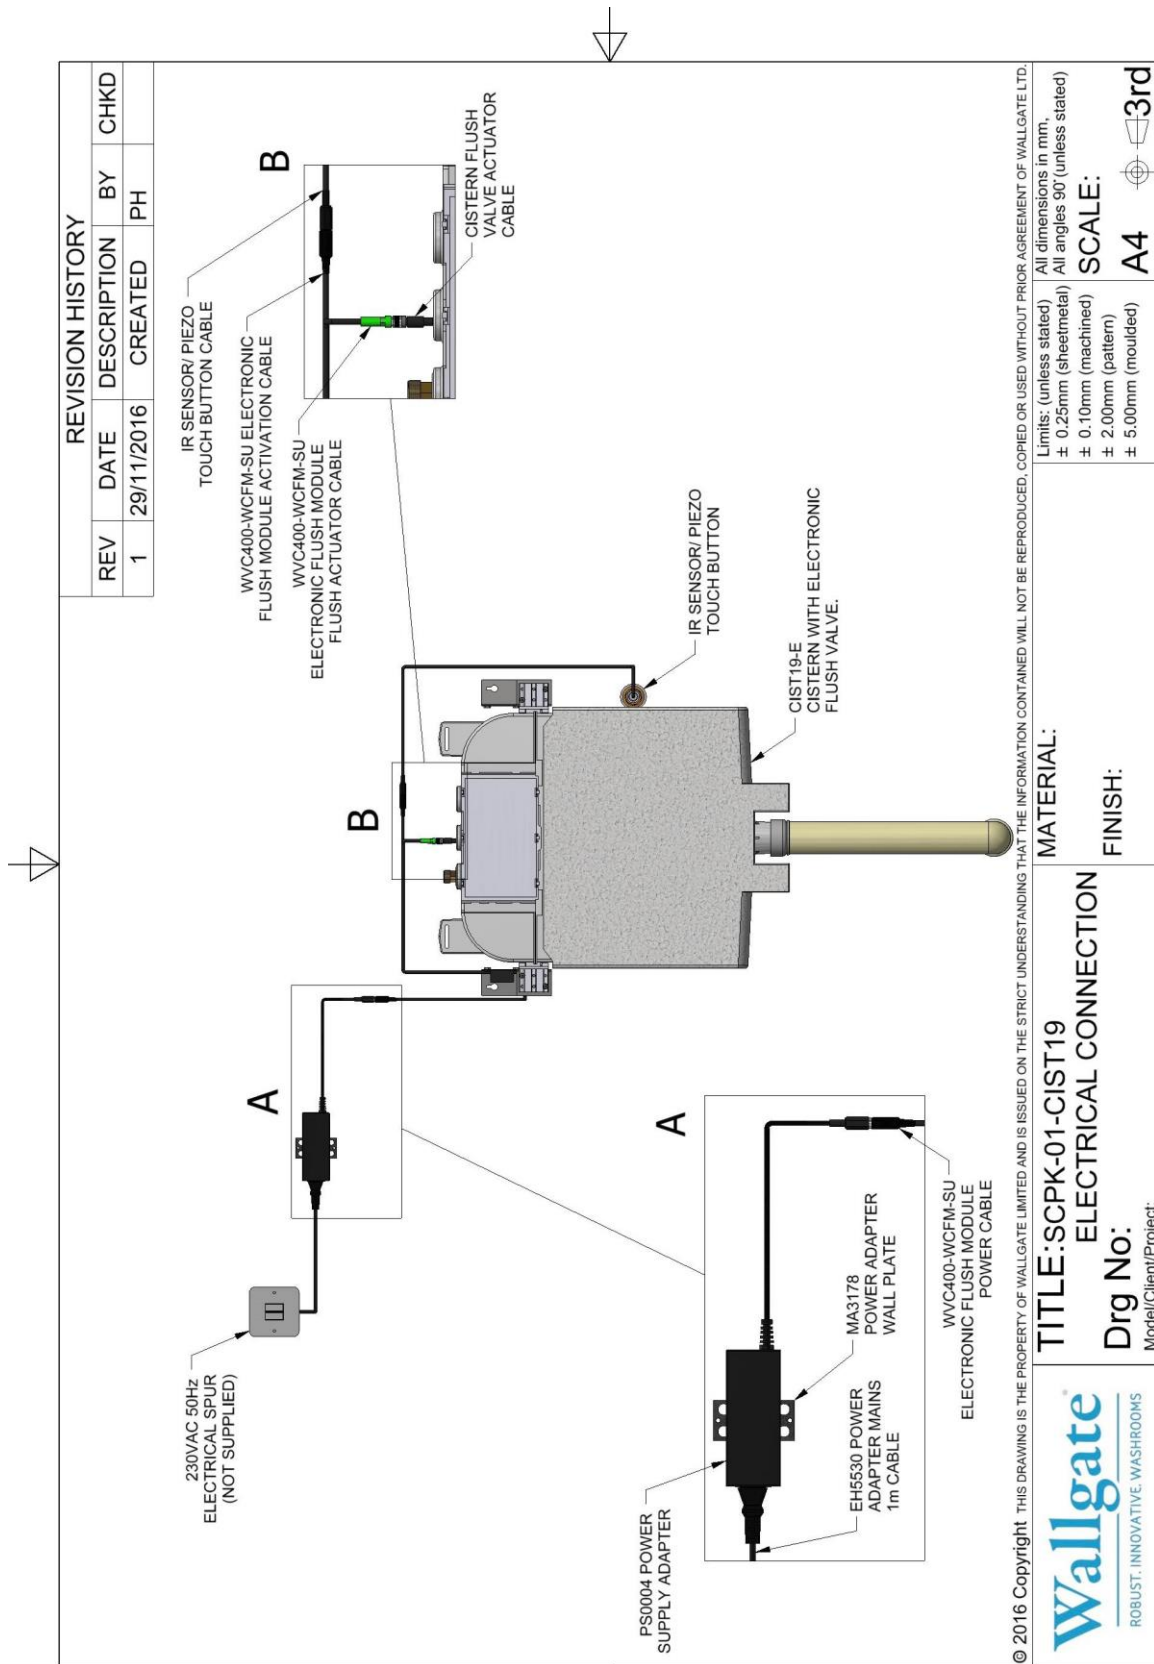

Fig: 4 (Typical installation layout)
1. The flush valve is controlled electronically by a flush module which is located on the left hand mounting bracket. The cable is routed from the flush valve, out of the top of the cistern for connection to the coloured socket on the flush activation cable from the flush module (Fig 4). Ensure the pins on the connector are correctly aligned before mating them together and secure with the locking ring.
A Wallgate touch button or IR sensor (Fig 4) is used for the activation of the cistern flush valve once connected to the flush module. The touch button or sensor will be wall mounted alongside the WC pan at an appropriate position for use. Refer to the instructions or drawing supplied with the touch button or sensor for installation and connection to the control unit.